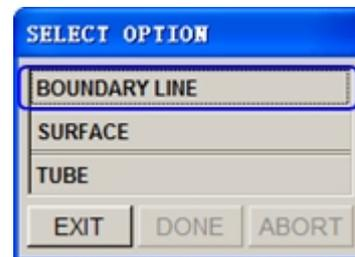

Figure 5.6 Select option
3. Select the BOUNDARY LINE option from the Selection Option dialog box illustrated in Figure 5.6.